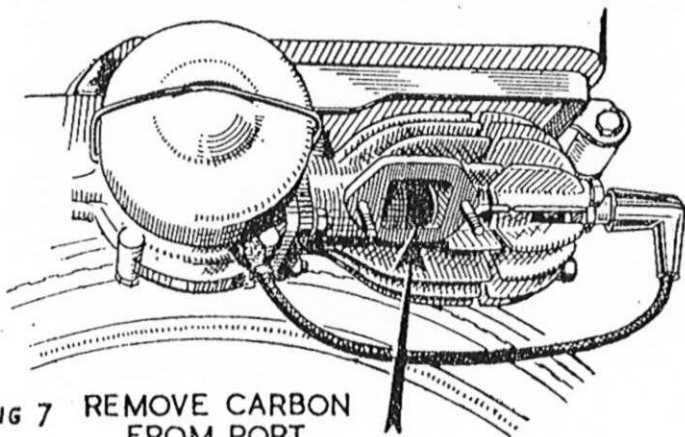

Fig 7 REMOVE CARBON FROM PORT
Having turned on the petrol tap, depress the primer plunger "U" on the carburettor (Fig. 7) four or five times; place the mixture control in the "RICH" position (if this is the first time you have started the unit). Grasp and pull into the ratchet stop the drive control lever (long lever on left-hand side of handlebar) bringing the roller into contact with the tyre. Move the speed control lever (small lever on the right-hand side of handle-bar) to the right, thus opening the decompressor valve; mount the bicycle and pedal away. The engine will now be revolved, but will not commence firing. When speed has been gathered, move the speed control lever smartly towards the left, thereby closing the decompressor valve and opening the throttle half-way. The engine should now commence firing. Continue to pedal briskly until the engine is running smoothly, then your speed may be regulated by operation of the speed control lever.
Adjustments to the mixture may be required to suit varying climates. For cold climates a richer setting of the carburettor is obtained by substituting the existing jet "V" (Fig. 7) by a bigger jet. The size of the jet is marked on the outside. If only a minor adjustment is needed, as, for instance, when changing from Summer to Winter conditions, it can be obtained by turning the air intake "W" in the direction of the arrow marked "Rich."
- (a) If it runs erratically or mis-fires it is probable that the carburettor is delivering a weak mixture. Turn the air intake "W" (Fig. 7) in the direction of the arrow "rich" and check for an improvement.
- (B) Oil the Control Cables.
- (C) Looking at the bicycle from the rear, check that the roller rests well on the centre of the tyre. If this is not so, loosen Bolt "C" of the sliding hinge and centralise the Unit. Make sure to retighten the bolt again. Remove all dirt from between the roller serrations.
- (D) Turn off petrol tap and remove screwed Plug "X" (Fig. 7) from the bottom of the carburettor float chamber. Turn on the petrol again momentarily to wash dirt out of the float chamber and replace screwed plug.
- (E) Check tightness of all nuts and bolts.
First depress the plunger "U" at the side of the carburettor (Fig. 7), sharply two or three times; which action will usually clear a choked jet. If a cure is not effective, remove the screw in the side of the carburettor which allows the removal of the jet "V" (Fig. 7).
Taking the jet between the thumb and forefinger, look through the hole which runs the whole length of it. This hole must be clear and round. If necessary it may be blown through or cleaned. If the jet is clean, before replacing it check that the petrol comes freely to the carburettor. Give two or three sharp strokes with the primer plunger "U" (Fig. 7) and you should see petrol gush from the well where the jet is inserted.
If this is not the case it is shown that no petrol reaches the carburettor jet. Therefore, turn petrol tap off, remove the banjo union of the petrol pipe from the top of the carburettor and turn on the petrol momentarily to see if the pipe is clear. Within this banjo you will find the gauze filter which should be cleaned, and also it should be observed if the hole in the top of the float chamber through which the petrol flows is clear. To do this it will be necessary to remove the carburettor from the machine by loosening the clamp screw and pulling the carburettor off the inlet pipe. (Fig. 7.)